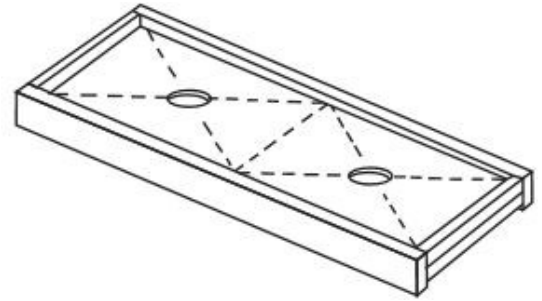

Fig. 1.
2. Divide the header in half and draw a line dividing the header into two equal parts. To find the center of each section draw an X diagonally from each corner to the center line as shown. Using a hole saw or a jig saw cut two  $2\frac{3}{8}$ " dia. holes through the header for the LED lights. This will be the placement holes for the lights. Fig. 1.